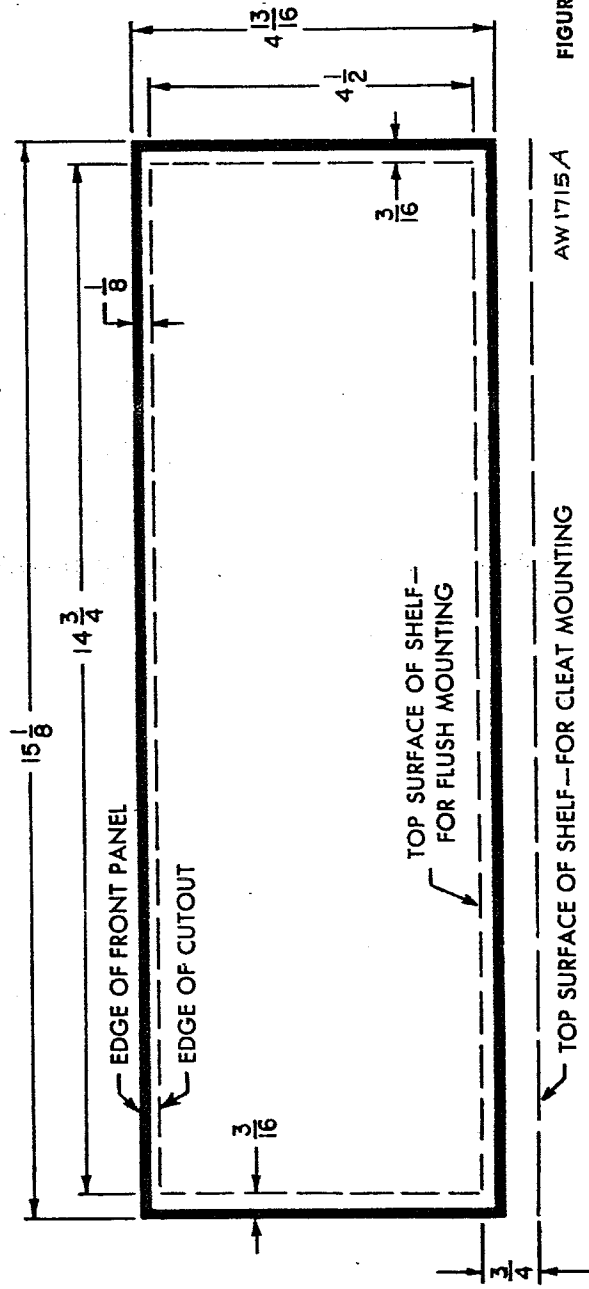

FIGURE 3. Front panel cutout.
- 3 — Saw a cutout through the front panel of your cabinet ($4\frac{1}{2}$ by $14\frac{3}{4}$) as shown in Fig. 3. The bottom edge of the cutout should be on a level with the top of the two cleats.
- 3—Saw a rectangular cutout through the front panel of the cabinet (4 1/2 by 4 13/16) as shown in Fig. 3. Note that the bottom edge of the cutout is flush with the top of the mounting board.